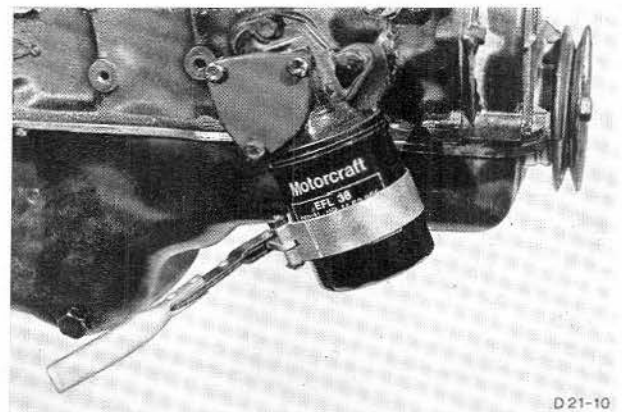

Fig. 19. Remove oil filter.
3. Drain engine oil and remove oil filter using oil filter wrench GV-6883-A, Fig. 19.